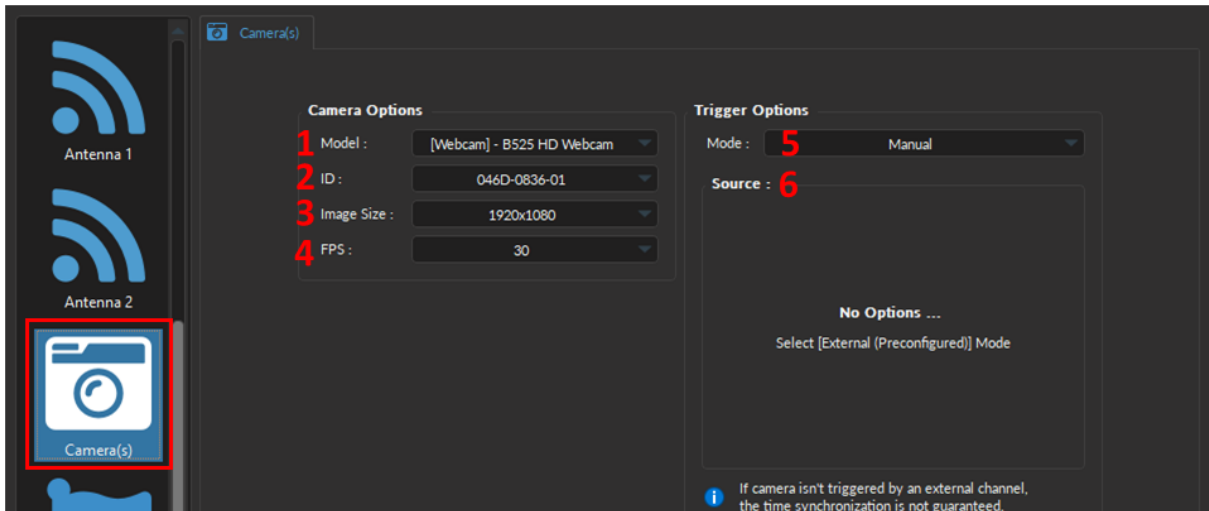
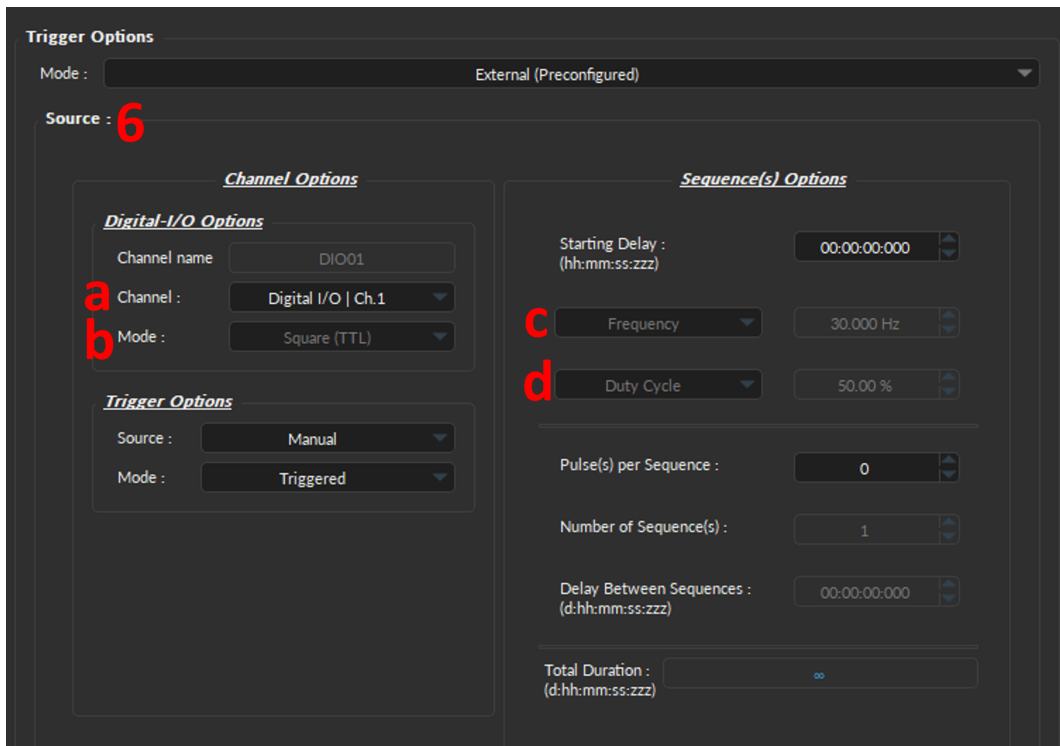

Figure 3.43: Channel(s) configuration window, Camera
Figure 3.45: Channel(s) configuration window, Camera - External (Preconfigured)
1. The **Model** (Fig. 3.43, 1) allows you to select the camera of choice based on the type of camera.
2. **ID** drop-down list (Fig. 3.43, 2) is used to select a camera based on its unique ID. The ID is particularly useful if multiple cameras of the same model are required for the experiment.
3. The **Image Size** (Fig. 3.43, 3) is used to set the resolution of the image. The large the number of pixels used for width x height, the better the resolution. Currently, image size can ranges between 160x120 to 1920x1080 pixels.
4. The **FPS** (Fig. 3.43, 4) is used to specify the frame rate of the camera (i.e. the number of images displayed per second). FPS can be any value between from 5-30 for web cameras and up to 60 FPS for the *Doric Behavior Camera*.
5. The **Mode** (Fig. 3.43, 5) sets the type of trigger that will control the camera. Depending on the type of camera, at most three modes are available:
6. The **Source** (Fig. 3.43, 6 & Fig. 3.45) is only used for the **External (Preconfigured)** mode, and displays the **Digital I/O** channel with the preconfigured parameters that will be created at the same time as the **Camera Channel** (Fig. 3.45). For detailed description of each Digital I/O parameter see the corresponding section in the Fiber Photometry System Manual. Briefly, key parameters include:
- a) The **Channel** (Fig. 3.45, a) corresponds to the physical Digital I/O channel number on the Console that is connected to the trigger cable of the *Doric Behavior Camera*.
- b) The **Mode** (Fig. 3.45, b) is by default set to the *Square (TTL)* which provides the external trigger signal to the camera. This parameter cannot be changed.
- c) The **Frequency** (Fig. 3.45, c) corresponds to the **FPS** set in the **Camera Options**. Changing the **FPS** will automatically change the **Frequency** in the **Sequence(s) Options**.
- d) The **Duty Cycle** (Fig. 3.45, d) is by default 50%. The frame will be taken at the start of each square pulse.